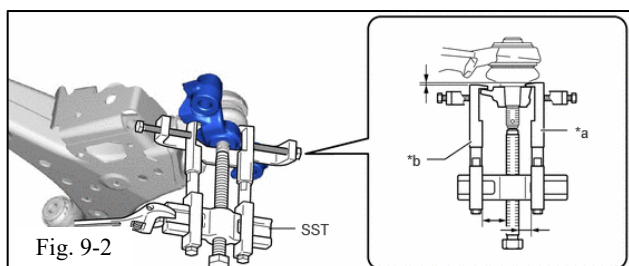

Fig. 9-2
(2) Using SST, remove front lower ball joint attachment (Fig. 9-2).